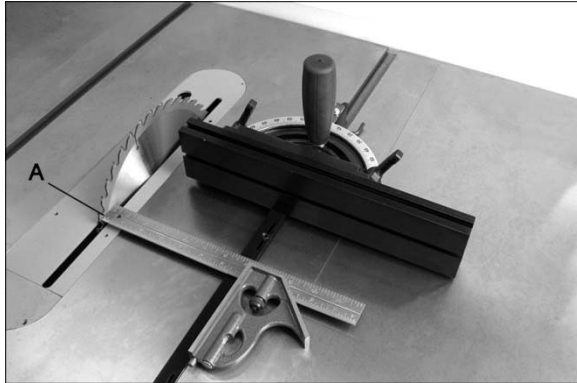

Figure 30
5. Rotate marked tooth (A) so that it is slightly above table top at the rear and, using the square as before, verify that the distance to the blade is the same. See Figure 30. If the distances are not the same, make a careful note of the difference.